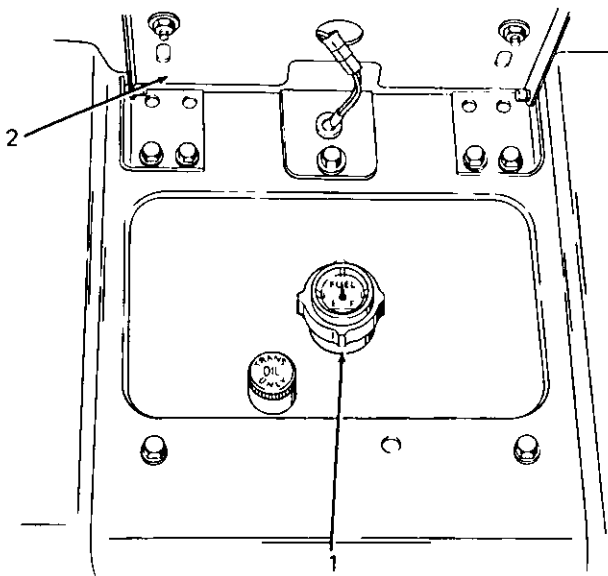

Figure 15
3. Fill the fuel tank with clean, fresh, diesel fuel. (See Figure 15.) Tank is located under the seat.